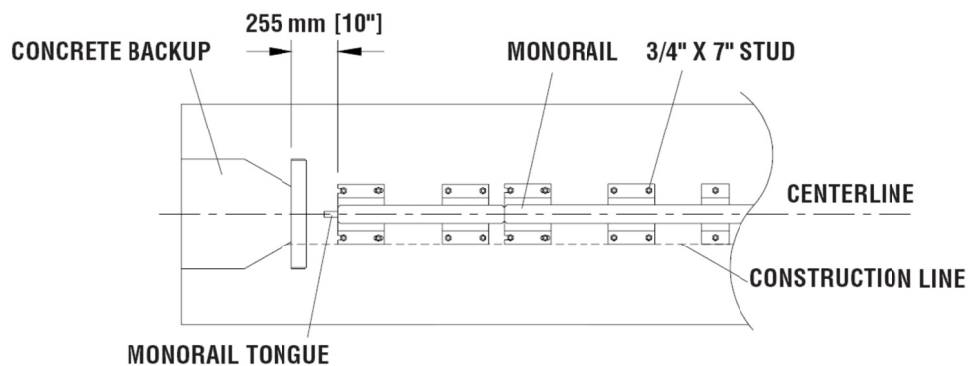

Figure 19
A) Monorail Placement for Concrete Backup (Figure 19)